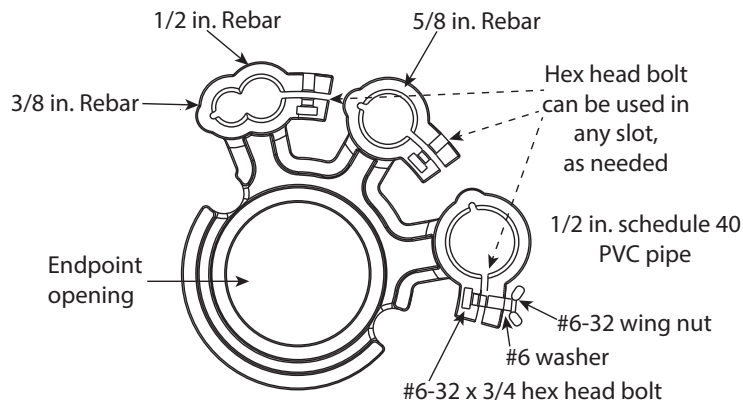

Figure 15: Support bracket (knuckles)
For pipe installations, the **Pipe Install Kit (PN: 64394-003)** with mounting support bracket (Figure 15) is available. The bracket is designed for use with a 3/8, 5/8 and 1/2 inch rebar or 1/2 inch schedule 40 PVC pipe.
2. Slide the mounting support bracket over the rebar/stake/pipe and secure using the enclosed hex head bolt, washer and wing nut with the bracket. The hex head bolt fits any slot. See Figure 15.